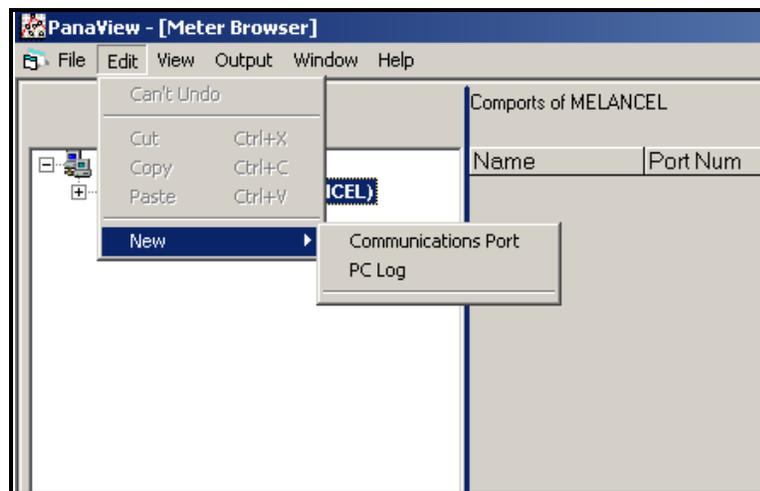

Figure C-1: The Edit Menu
4. Click on the *New* menu option to select it, and a submenu opens with two choices on it (see Figure C-1 below).